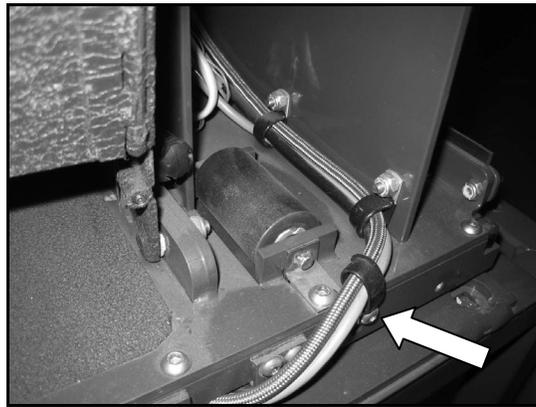

FIGURE 3-11
- 7. Refer to **Figure 3-11**. Remove clamp-attaching screw on front of roller rail.